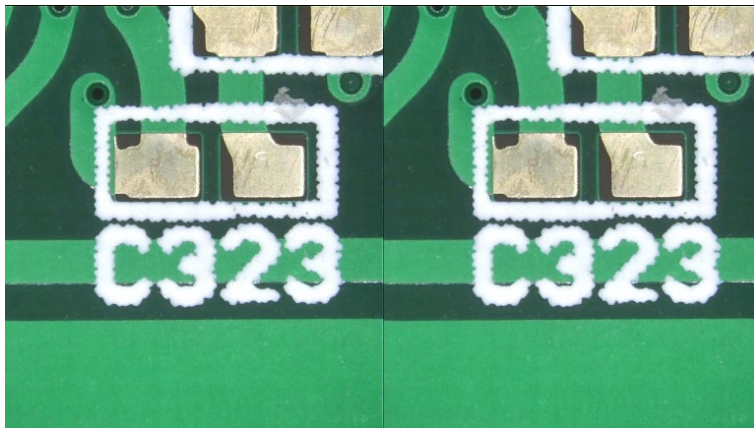

Fig 5-50 Left Side Comparison mode
- Left Side Comparison  : Enable/Disable the Left Side Compare mode. The loaded image is on left side. Right side image is live preview image. Below Fig 5-50: Transparency: 100%, Image Location: 100%, Offset Ratio: 0%, Image Ratio: 50%.